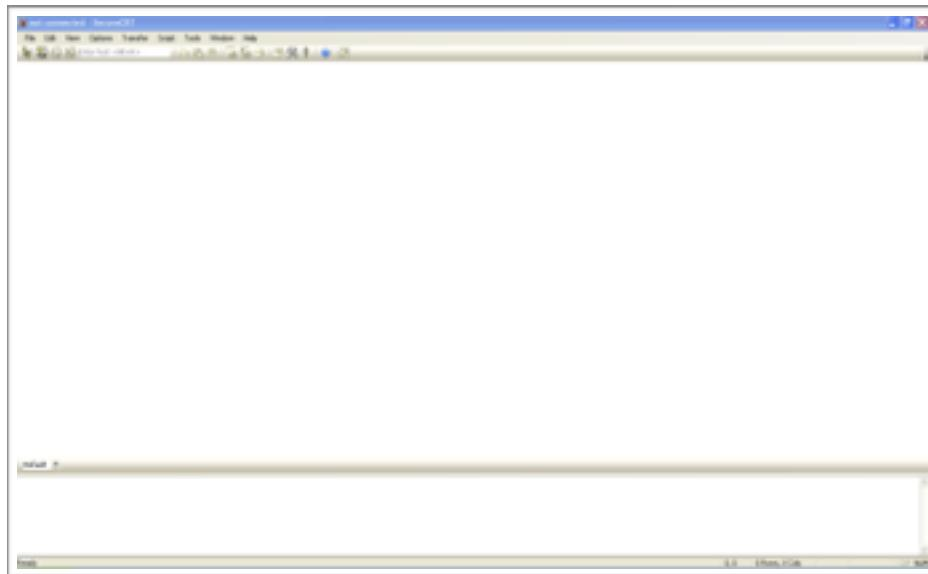

Figure 3-1. Main Interface of SecureCRT
1. Double-click **SecureCRT.exe** to run the application. Figure 3-1 shows the main interface.